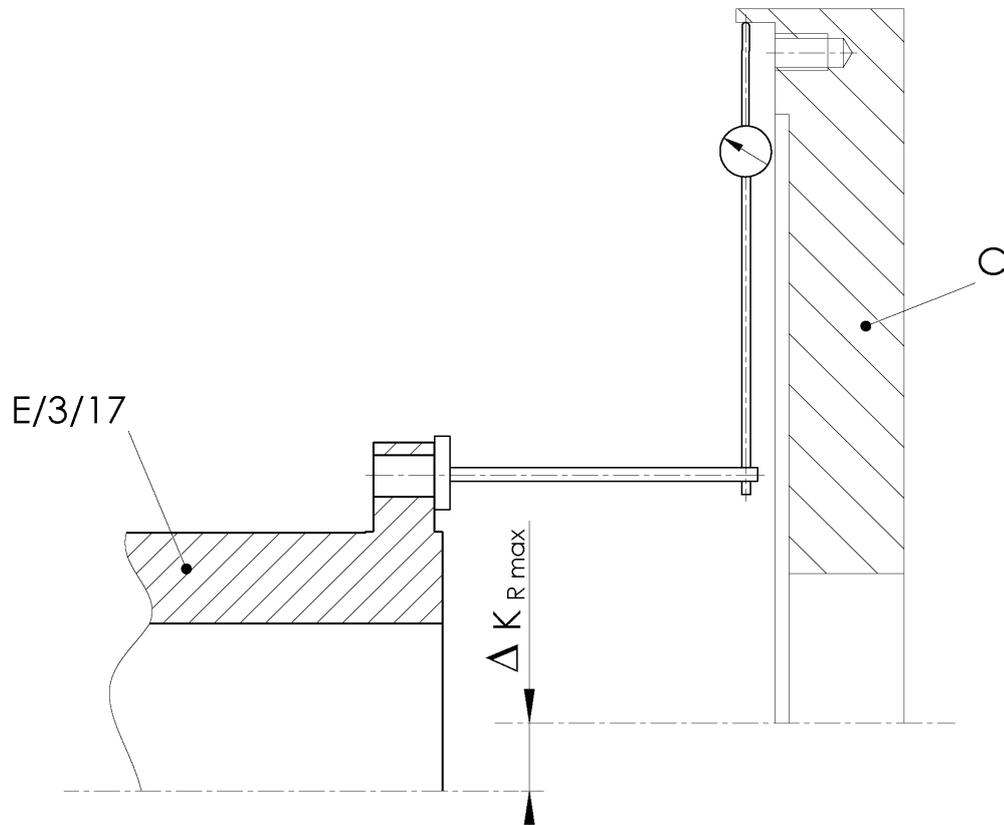

Fig. 5-2 Radial misalignment
- Measure the radial misalignment with a dial gauge (see Fig. 5-2).
- Turn the flange/hub/adapter (E/3/17) with dial gauge and flywheel (C) slowly by 360°.